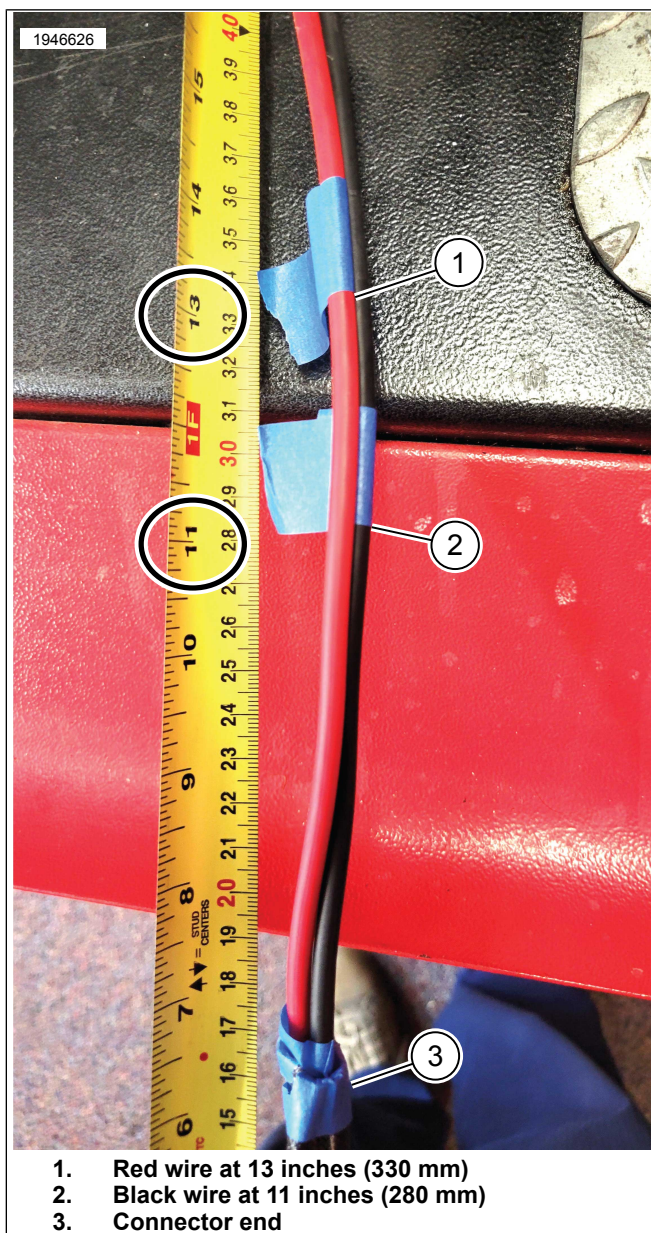

Figure 7. Measured Locations
5. See Figure 7. Measuring from the front of the voltage regulator connector [77] cut the RED wire at 13 inches (355mm).